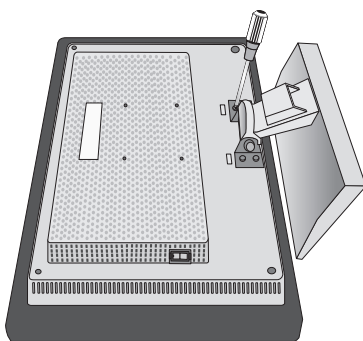

Figure R.2
4. Remove the 4 screws connecting the monitor to the stand and lift off the stand assembly (Figure R.2). The monitor is now ready for mounting in an alternate manner.